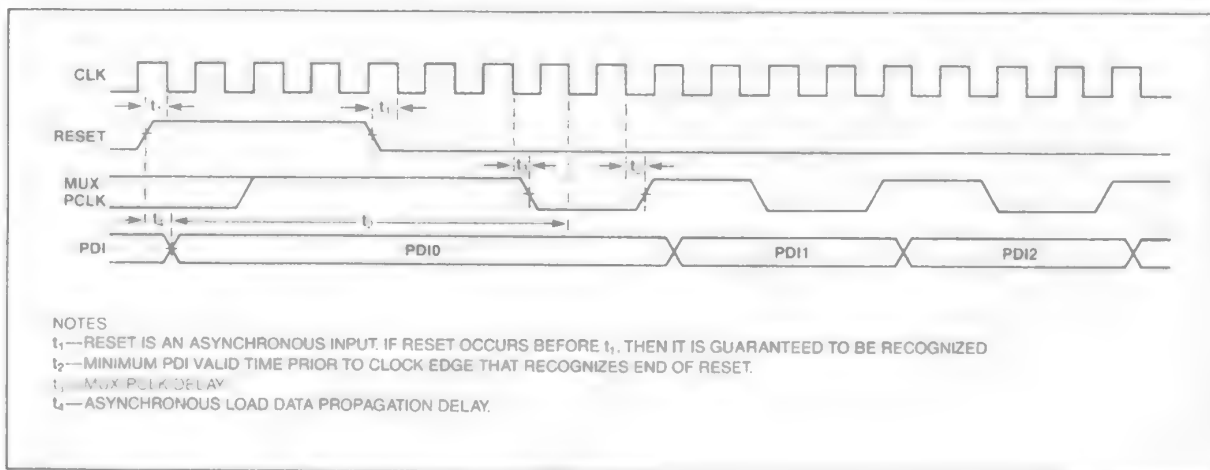

Figure 8. Timing Illustrating External Shift Register Requirements for Programming the 8207
The 8207 is programmed after reset. On the falling edge of RESET, the logic states of several input pins are latched internally. The falling edge of RESET actually performs the latching, which means that the logic levels on these inputs must be stable prior to that time. The inputs whose logic levels are latched at the end of reset are the PCTLA, PCTLB, REFRQ, and PDI pins. Figure 8 shows the necessary timing for programming the 8207.
The 8207 may be configured to use an external shift register with asynchronous load capability such as a 74LS165. The reset pulse serves to parallel load the shift register and the 8207 supplies the clocking signal to shift the data in. Figure 11 shows a sample circuit diagram of an external shift register circuit. Serial data is shifted into the 8207 via the PDI pin (57), and clock is provided by the MUX/PCLK pin (12), which generates a total of 16 clock pulses. After programming is complete, data appearing at the input of the PDI pin is ignored. MUX/PCLK is a dual-function pin. During programming, it serves to clock the external shift register, and after programming is completed, it reverts to a MUX control pin. As the pin changes state to select different port addresses, it continues to clock the shift register. This does not present a problem because data at the PDI pin is ignored after programming. Figure 8 illustrates the timing requirements of the shift register circuitry.